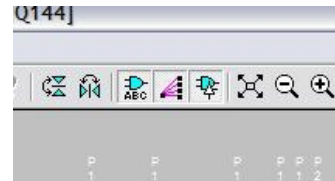

Figure 25
2. Make sure that the Toggle Labels, Toggle Rubberbands and Toggle Resource Graphics buttons are selected as in figure 25.